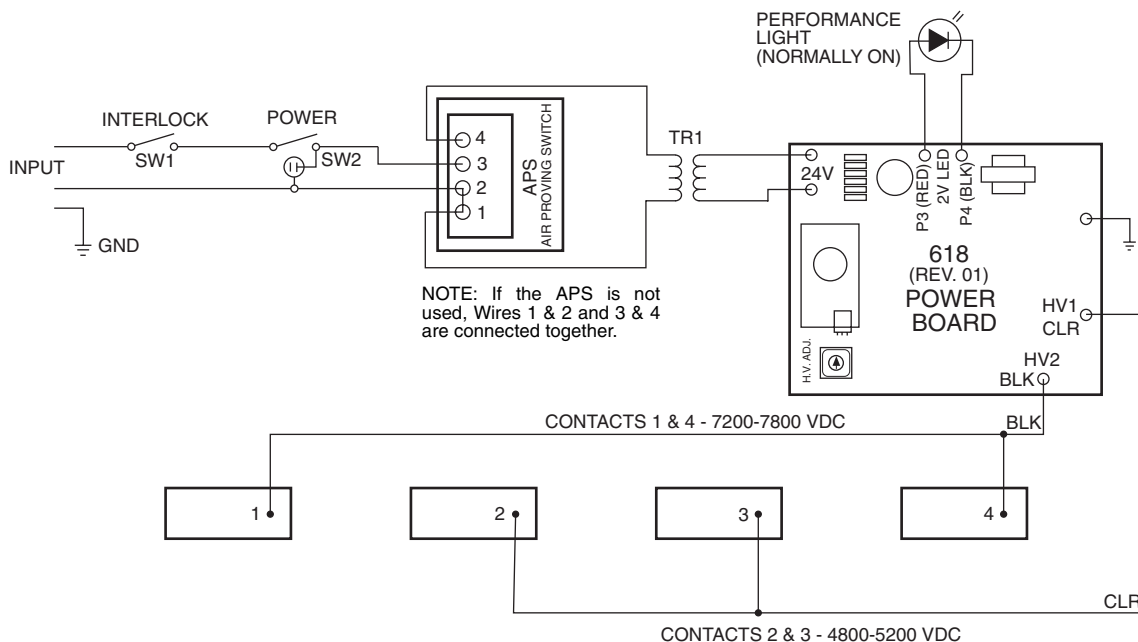

Fig. 5 — Electronic Air Cleaner Wiring — P102-14B and P102-20 Units
3. Disconnect the leads of the 24-v transformer from the power board. See Fig. 5.
2. Disconnect the secondary leads from the transformer to the 24 v terminals on the power board. See Fig. 5.